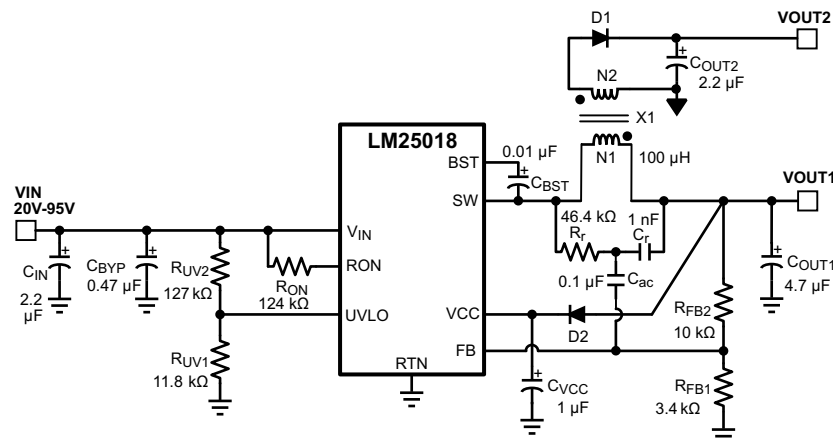

图 8-5. Typical Isolated Application Schematic
An isolated supply using LM25018 is shown in 图 8-5. Inductor (L) in a typical buck circuit is replaced with a coupled inductor (X1). A diode (D1) is used to rectify the voltage on a secondary output. The nominal voltage at the secondary output ( $V_{OUT2}$ ) is given by 方程式 20.